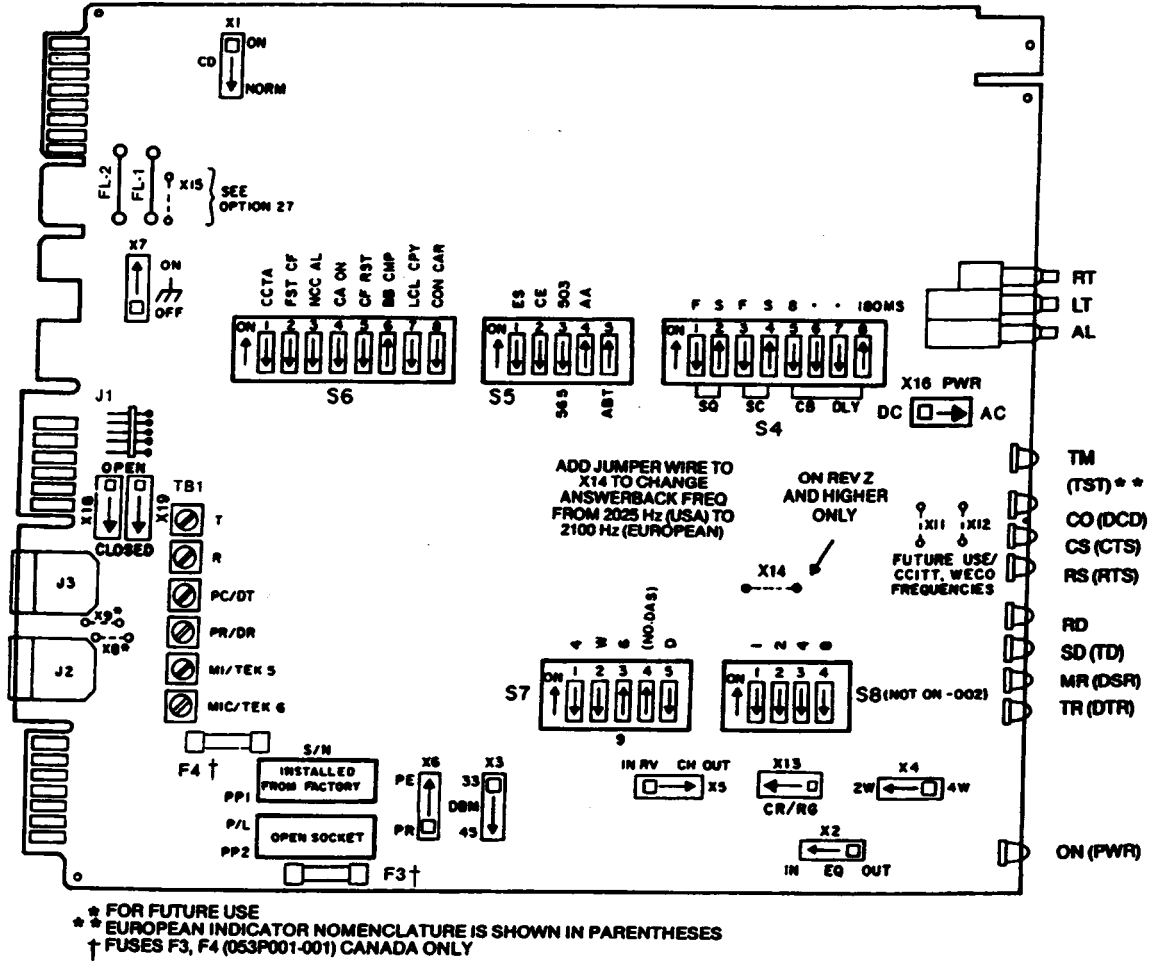
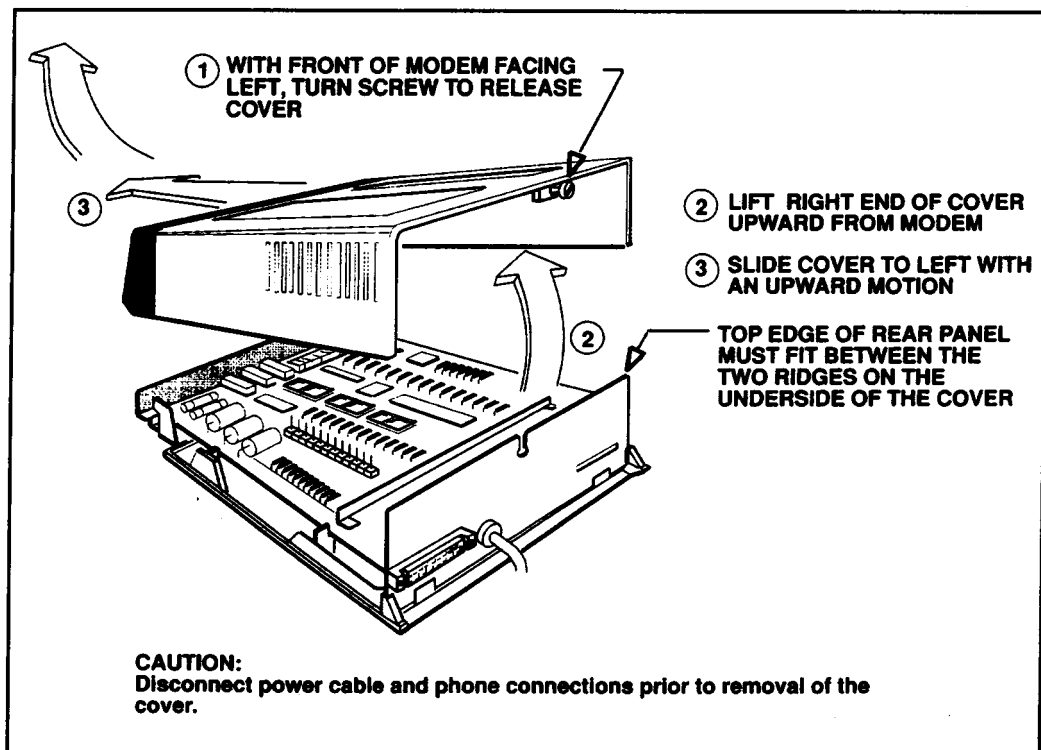

FIGURE 2-1. DataComm 202S/T (053P001-000, -002) OPTION SELECTIONS FOR SWITCHED NETWORK OPERATION
FIGURE 2-5. STANDALONE COVER REMOVAL PROCEDURE
The modem should be given a preoperational check by performing a Local Self-Test to verify normal operation before it is connected to the VF line, telephone, and terminal and *before any factory-set option strapping is changed*. See Section 4 for instructions on performing this test. First verify that option strapping is the same as shown in Figures 2-1 through 2-4, Option Locations, and perform the test on a standalone modem before it is connected to anything except ac power, and on shelf plug-in modems as they are individually installed.
After determining which options should be selected, refer to Figure 2-6 which describes the method of implementing each option. Also refer to Figures 2-1 through 2-4, which illustrate the location of each option and how each option has been selected as shipped from the factory. Options have been selected for the most common usage and may not have to be changed. To gain access to the modem component board in a standalone enclosure, refer to Figure 2-5.
If it is necessary to remove the component boards from the standalone base, disconnect the power supply connector from J1, which is mounted at the rear center of the base card (the location of J1 is illustrated in Figures 2-1 through 2-3). When reinstalling the component boards in the base, reinstall the connector at J1.
*This unit incorporates internal fusible links, FL1 and FL2 (illustrated in Figures 2-1 through 2-3), which may be opened if the ground potential exceeds 0.25 V rms between the unit and peripheral equipment. Do not apply power to the modem until all connections to peripheral equipment have been made. If a fusible link is opened in a modem, return the unit to the factory for repair.*